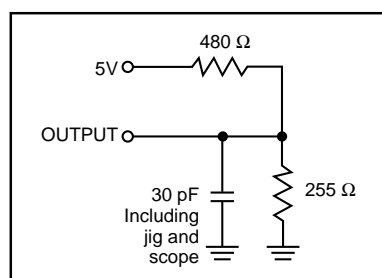

Figure 1
1. Test conditions assume signal transition times of 3 ns or less, timing reference levels of 1.5V, input pulse levels of 0 to 3.0V and output loading specified in Figure 1.
| Output Load                                 | See Figures 1 and 2 |